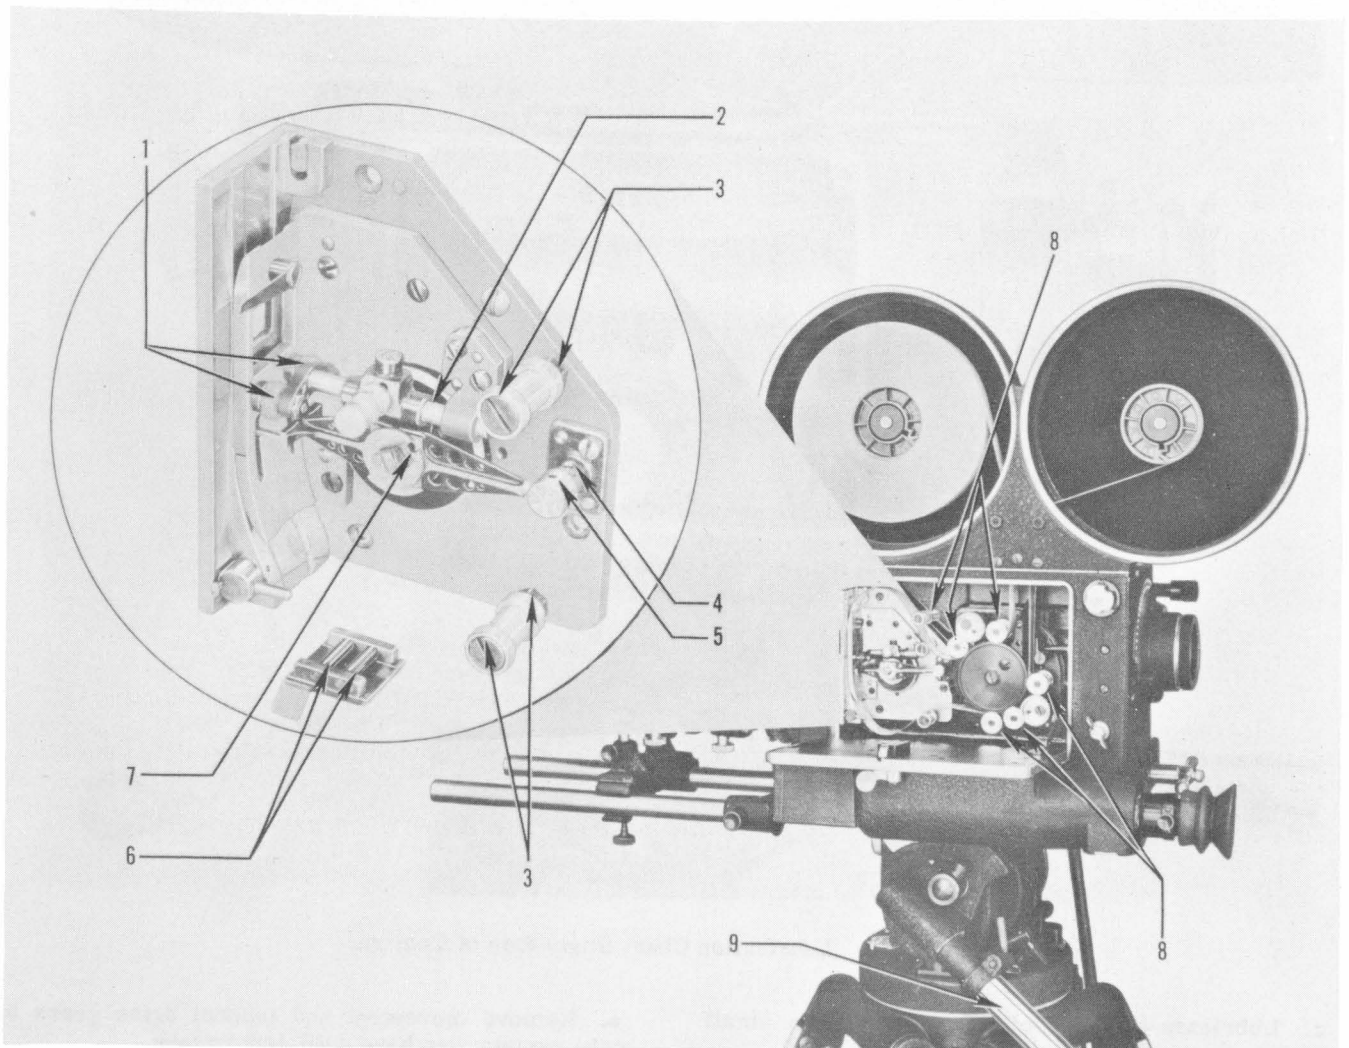

Figure 4-1. Lubrication Chart (Left Side of Camera)
- 4-7. **LUBRICATION.** (See figures 4-1 and 4-2.) Use Mitchell Camera Oil supplied with camera for all lubrication points requiring oil. Petroleum jelly, white vaseline, or a neutral ball bearing grease in tube form can be used wherever grease is used. Lubricate only those points shown on figures 4-1 and 4-2. All other points of lubrication are of such a nature they should be serviced only when camera is completely overhauled.
- 4-8. **1,000-FOOT LUBRICATION.** Lubricate the movement every 1,000 feet and before every high speed run. See figure 4-1 for lubrication points.
e. Lubricate movement by oiling all points shown in figure 4-1.